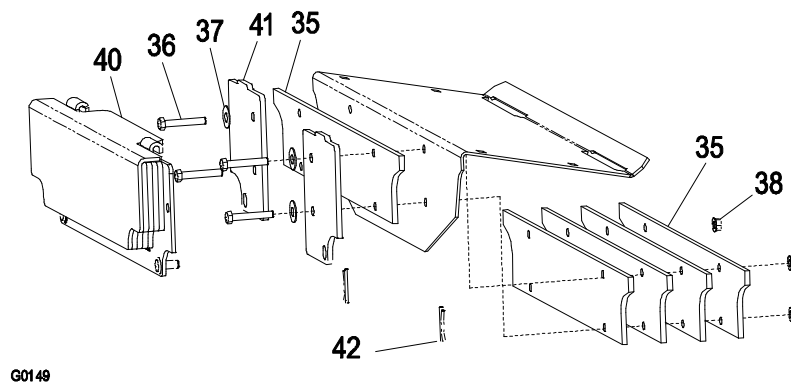

FIGURE 12
- 3.5.6 For Lazer Z units prior to SN 440,000 with a ROPS: Open the floor pan and install (4) weight plates behind the front panel, (1) weight plate in front of the front panel, and (2) weight mounting plates (Items 35, and 41) as shown in Figure 12 using (4) 5/16-18 x 2.0 screws, (4) 5/16 flat washers, and (4) 5/16-18 whizlock nuts (Items, 36, 37, and 38).
- 3.5.7 Hook weight plate assembly (Item 40) over the top of the weight mounting plates and secure with two hairpins (Item 42) as shown in Figure 12.
3.5.10 Follow steps 3.5.6 through 3.5.7 for weight installation (See Figure12).